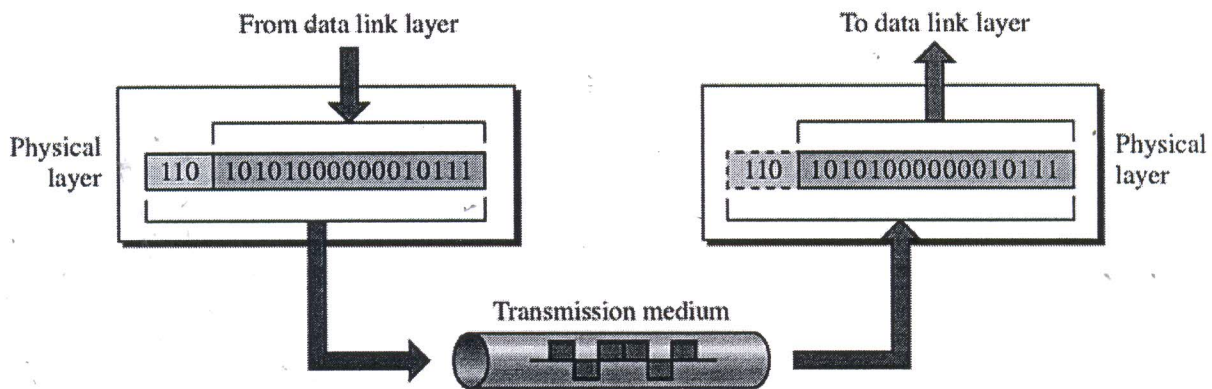

Figure 1: Physical layer
- (d) Refer to **Figure 1**, answer the following questions: